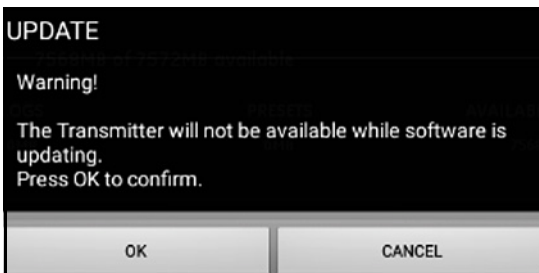

Figure 107: Update Confirmation Screen
- At the screen shown in *Figure 107* below, click the **OK** button to confirm the update and continue.